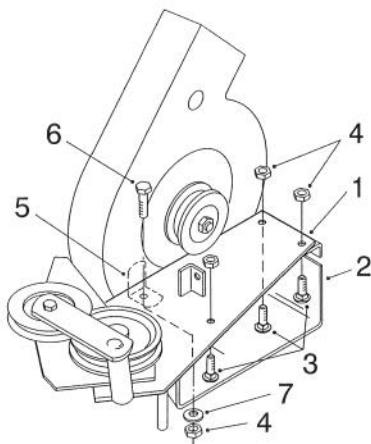

Figure 3
1. Install the blower mounting plate assembly to the blower housing using three  $\frac{5}{16}$ " x  $\frac{3}{4}$ " carriage bolts and  $\frac{5}{16}$ " hex-head flange nuts (Fig. 3).
2. Install the L-Shaped support bracket inside the blower housing using a  $\frac{5}{16}$ " x 1" hex-head bolt,  $\frac{5}{16}$ " flat washer and  $\frac{5}{16}$ " hex-head flange nut (Fig 3). Do not tighten the flange nut.
3. Pull the L-shaped support bracket up tightly against the inside wall of the blower housing and tighten the flange nut (Fig. 3).